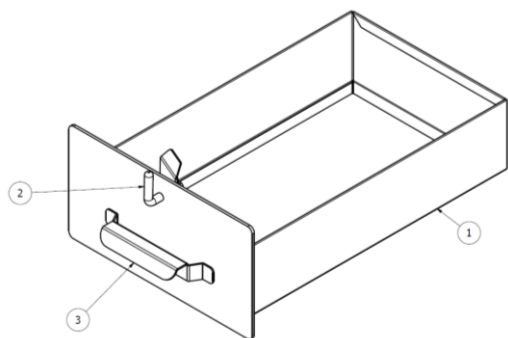

Figure 12
- **Ashtray** (Figure 12) should be emptied every day before turning the cooker on, or more often, if necessary. The aim of this cleaning is to allow the free flow of air for combustion.